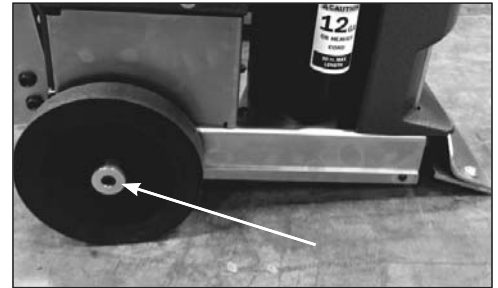

FIG. 8
4. Use 5 mm Hex wrench to remove wheel securing screw (Figure 8).